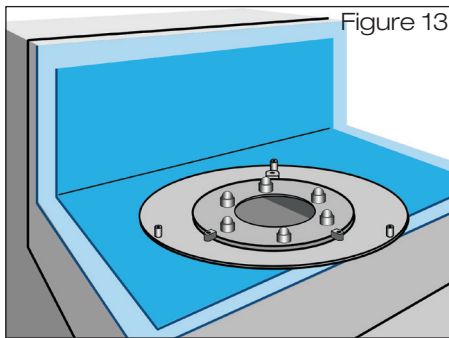

Figure 13
3.5 Place the plastic hexagonal M 12/ 19 AF caps provided onto the threaded bolts (Fig. 13 or 13A).